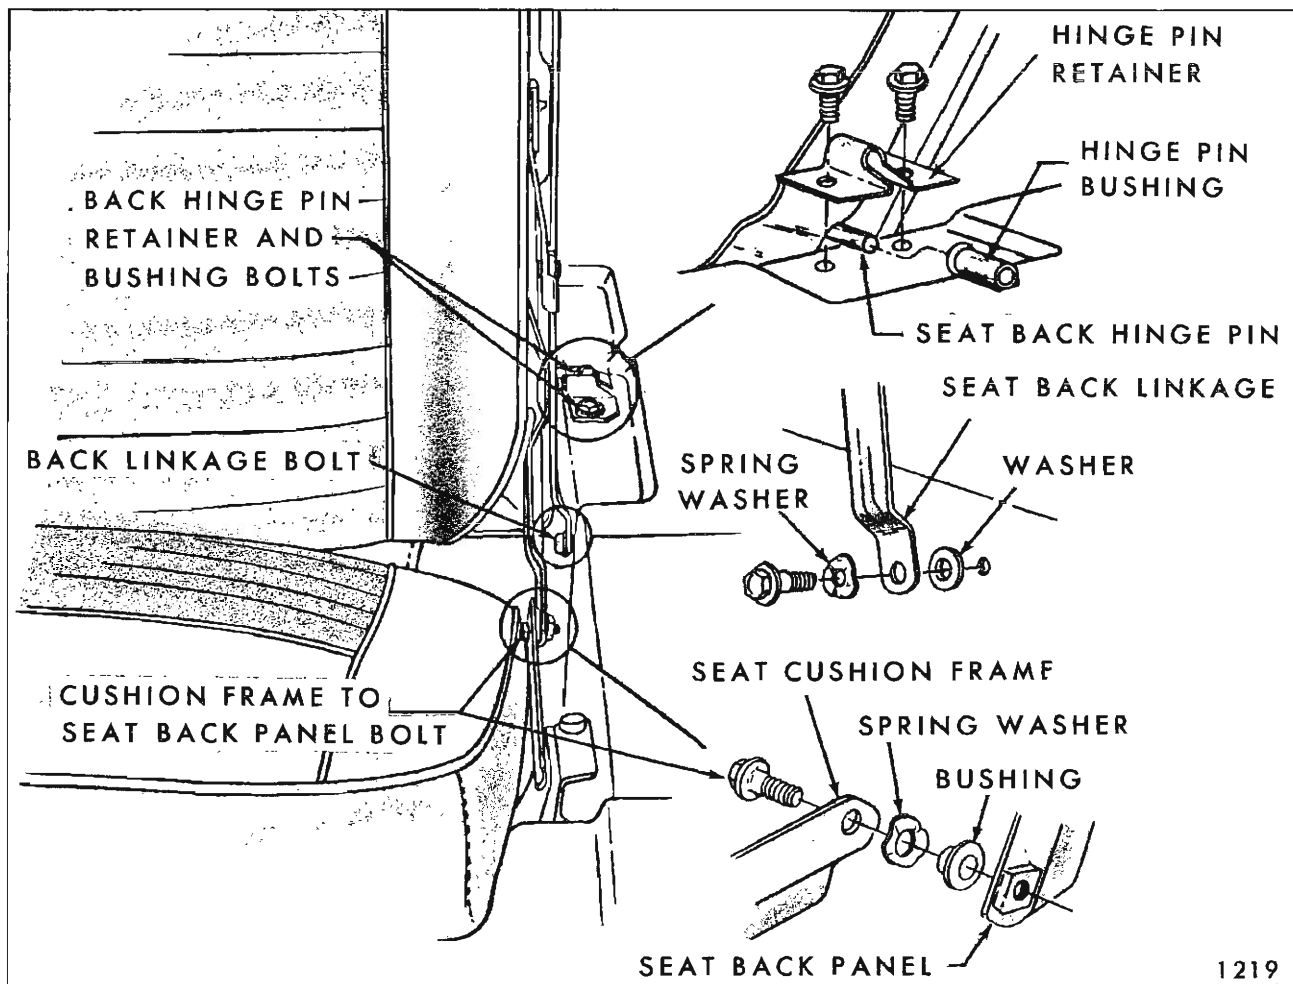

Fig. 15-92—Folding Third Seat (Vista Cruiser and Sport Wagon Styles)
2. Remove seat back linkage-to-compartment side pan attaching bolt (Fig. 15-92) at both right and left sides of seat.
3. At left side of seat remove seat back hinge pin retainer (Fig. 15-92).
between seat back linkage and compartment side pan and spring washer between linkage and bolt head (Fig. 15-92).
3. Remove seat cushion frame-to-seat back panel attaching bolt (Fig. 15-92) from both sides of seat; then, remove seat cushion assembly and place on a clean surface.
5. To install, reverse removal procedure. When installing seat cushion frame-to-seat back frame attaching bolts install bolt bushing and spring washer, as shown in insert of Figure 15-92.
ing bolt (Fig. 15-92); then, remove seat back panel with attached rear floor filler (at kick-up) panel from seat cushion.
- To install, reverse removal procedure. Refer to inserts in Figure 15-92 for correct installation of linkage bolts, bushings and spring washers.